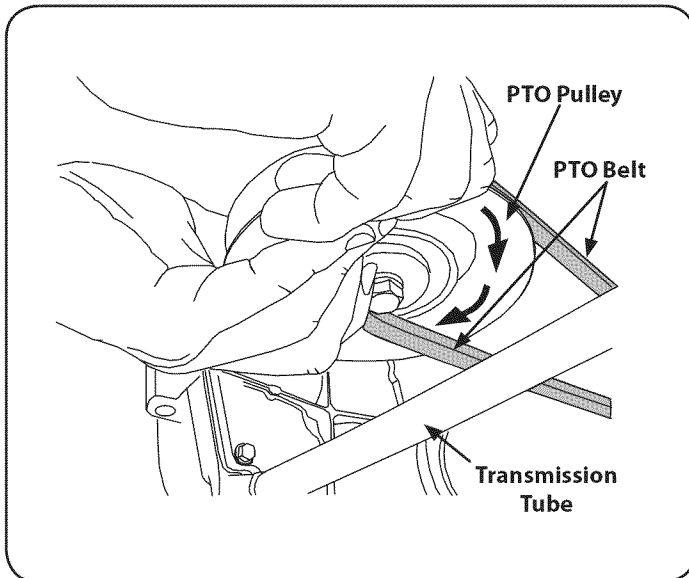

Figure 38
- d. While still holding the belt downward, continue turning the PTO pulley until the belt is rolled off the pulley. Refer to Figure 38.